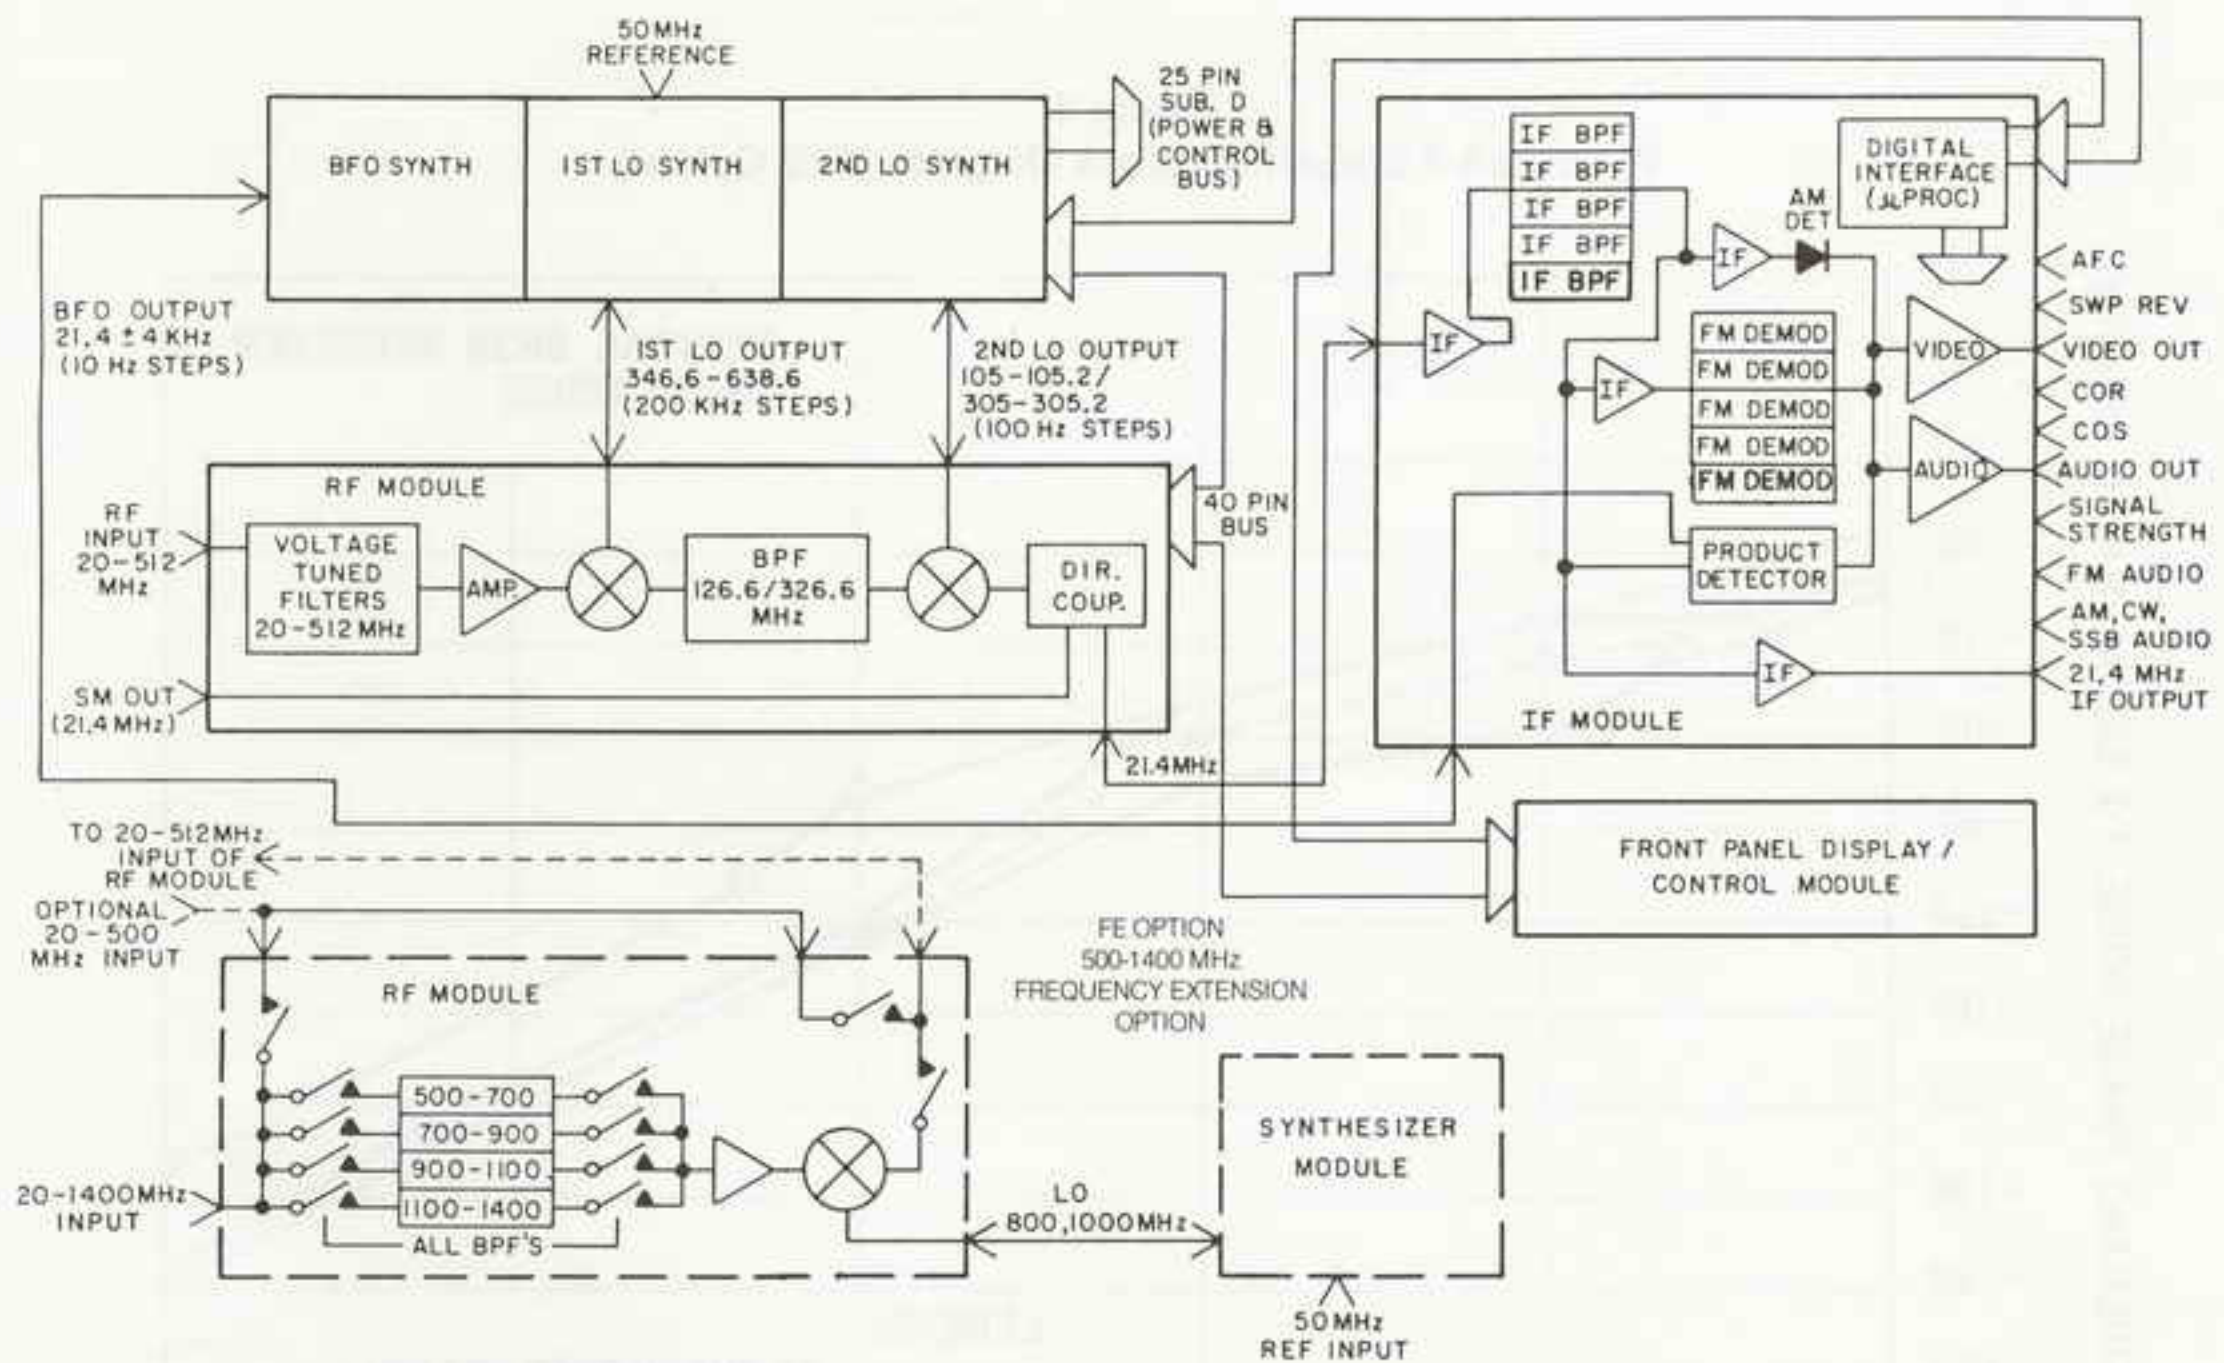

Figure 3
A simplified block diagram of the WJ-8628A-4 is shown in Figure 3. The RF input signal (20 to 512 MHz) is filtered by a voltage tuned preselector, presenting a nominal 10% bandwidth. The RF module is of a dual conversion design. For an RF input of 20 to 275 MHz, the first IF frequency is 326.6 MHz and finally converted to 21.4 MHz with use of a 305.2 MHz second Local Oscillator (LO). RF inputs in the 275 to 512 MHz range are converted to a 1st IF of 126.6 MHz and then converted to 21.4 MHz with a 105.2 MHz second LO.
The 500 to 1400 MHz FE option consists of a Synthesizer module and an RF module (see Figure 3). The Synthesizer module generates a 800 MHz or 1000 MHz LO derived from the 50 MHz reference provided by the WJ-9040 SRM105A. The RF module first filters the incoming RF using four suboctave filters. The RF is then amplified and mixed with either the 800 MHz or 1000 MHz LO. The resulting IF is either 100 MHz to 300 MHz or 100 MHz to 400 MHz, depending on the RF input fre-